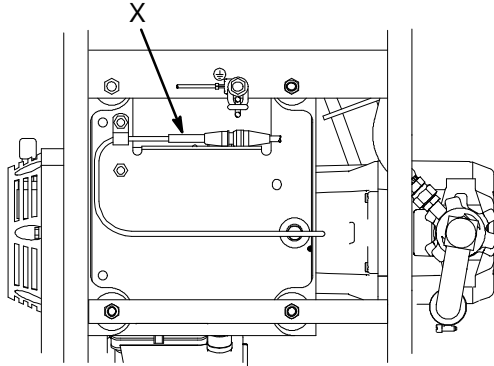
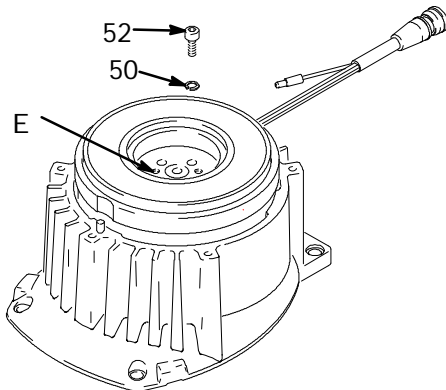
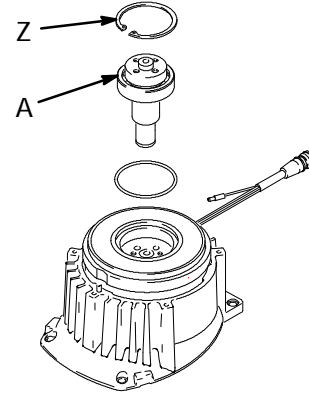
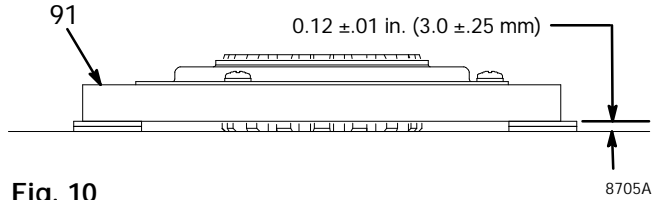

Fig. 5 8837A
Fig. 7 8701A
Fig. 8 8703A
Fig. 10
2. Fig. 5. Disconnect field cable (X) from pressure control.
4. Fig. 7. Place pinion assembly (88a) on bench with rotor side up.
5. Remove four screws (52) and lockwashers (50). Install two screws in threaded holes (E) in rotor. Alternately tighten screws until rotor comes off.
6. Fig. 8. Remove retaining ring (Z).
7. Tap pinion shaft (A) out with plastic mallet.
1. Fig. 10. Lay two stacks of two dimes on smooth bench surface.
2. Lay armature (91) on two stacks of dimes.
4. Install armature (91) on engine drive shaft.
5. Install four screws (53) and lockwashers (50) with torque of 125 in-lb.
6. Fig. 8. Tap pinion shaft (A) in with plastic mallet.
7. Install retaining ring (Z).
8. Fig. 7. Place pinion assembly on bench with rotor side up.
9. Apply locktite to screws. Install four screws (53) and lockwashers (50). Alternately torque screws to 125 in-lb until rotor is secure.
10. Install pinion assembly (88a) with five screws (89) and lockwashers (50).
11. Fig. 5. Connect field cable (X) to pressure control.